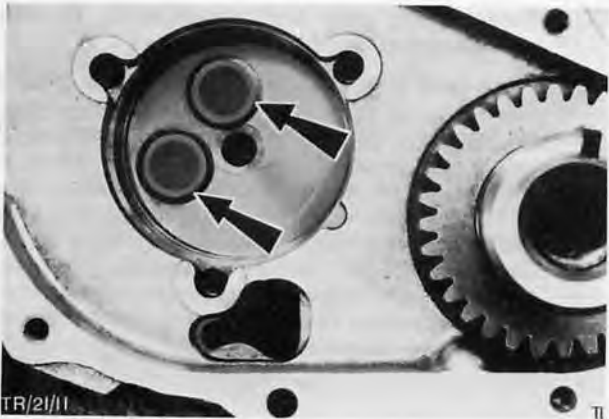

Fig. 167. Fit O-rings
3. Fit oil pump with new O-rings, Fig. 167 to mounting.